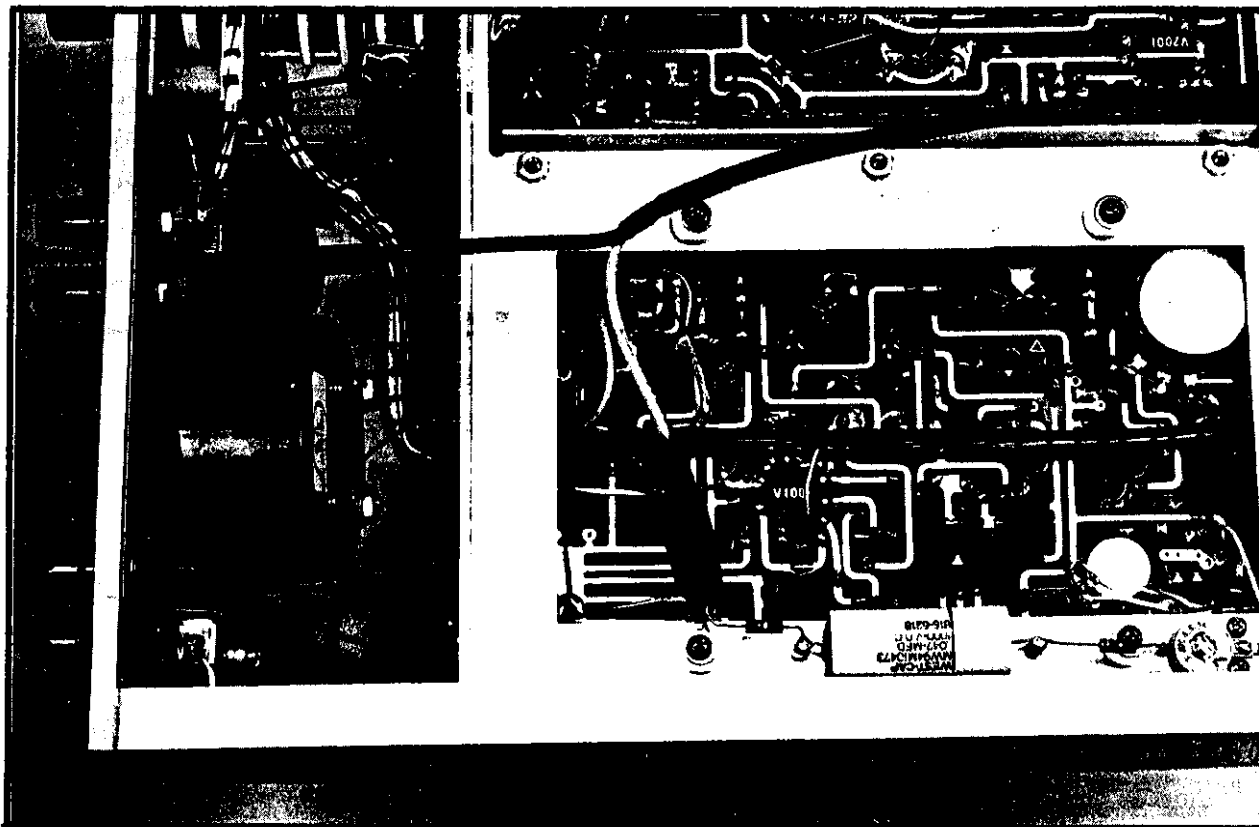

FIGURE 10. Attaching Oscilloscope Leads for Adjusting Trimmer. The oscilloscope is attached to the LO input terminal and the guard circuit.
2. To adjust the trimmer, remove the bottom cover and attach an oscilloscope between the LO input terminal and the guard circuit (see Figure 10). With the Reference Voltage Dials set for either 24545 or 25455, the wave form should be similar to that shown in Figure 11. Adjust trimmer C1018 (Figure 19) until the wave form is correct.